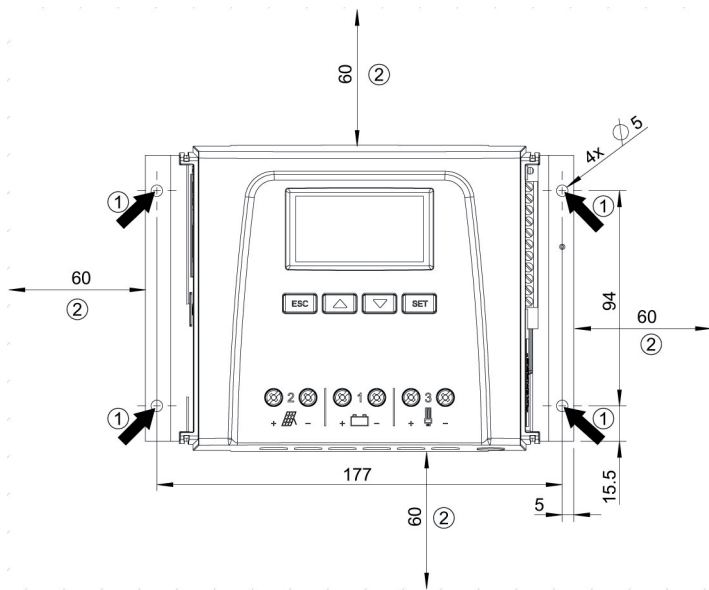

Fig. 10 Fastening openings ① and free space ②
- A free space of at least 60 mm must be present on all sides of the controller. The required free space relates to the controller *without* covers; see ② in Fig. 10.
- Do not drill through the fastening openings ① (Fig. 10).
3. ➔ Position the controller level on the mounting surface and mark the mounting holes through the fastening openings ①.